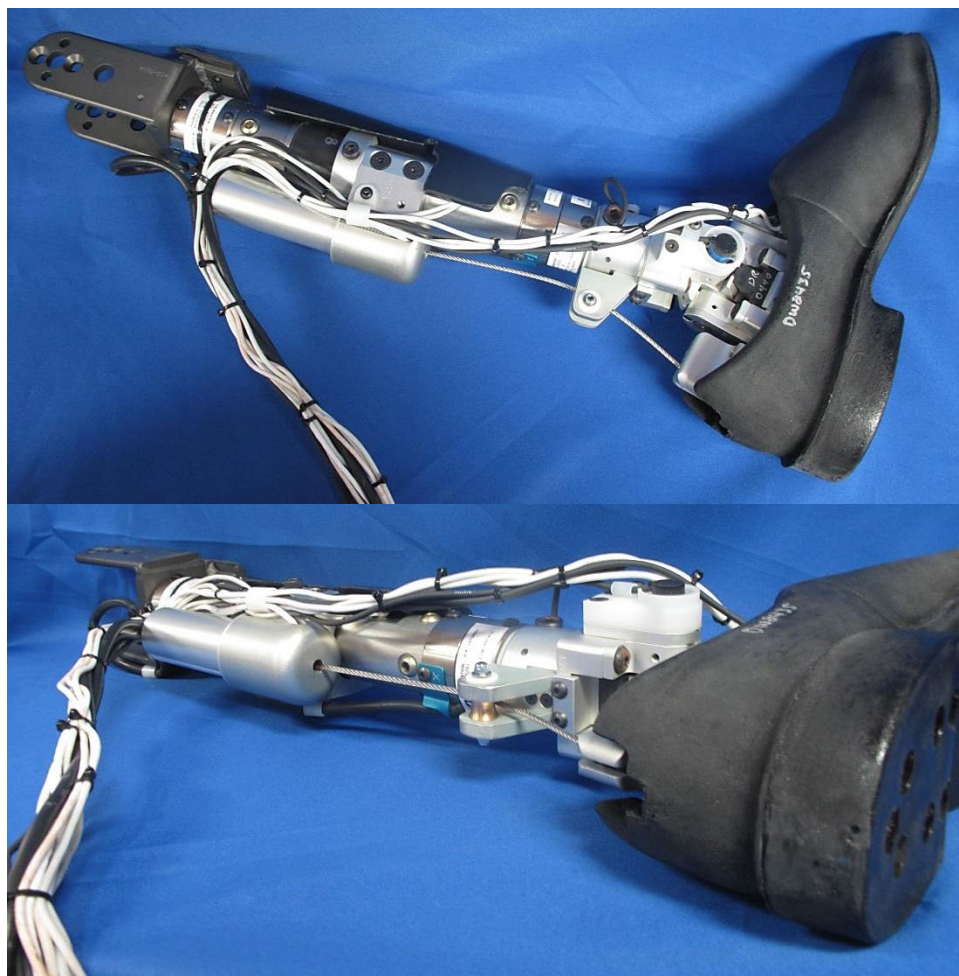

Figure 12-67. Bundle and route wires for lower leg
- 12.2.2.48 Bundle the lower leg transducer wires and route upwards along the inner tibia and out at the upper tibia (Figure 12-67).